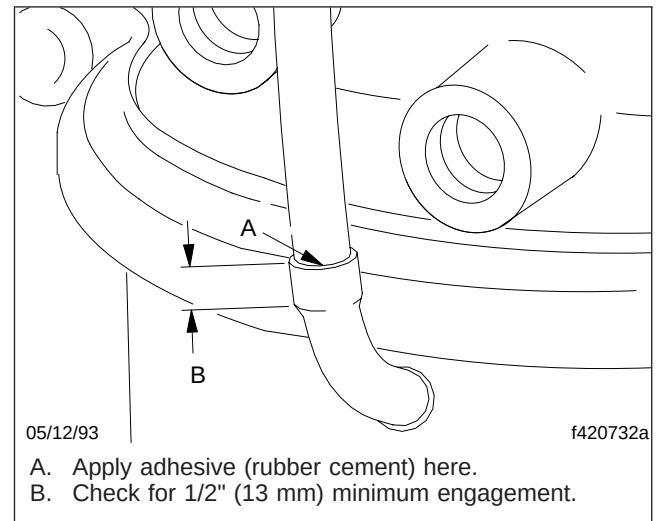

Fig. 5, Installing the External Breather Tube
15. On chambers equipped with an external breather tube, make sure that the open end of the tube is free of grease, dirt, and other debris. Then, apply a high-quality rubber cement to the tube and insert it into the elbow at least 1/2 inch (13 mm). See Fig. 5. Insert the tube into the service brake chamber.